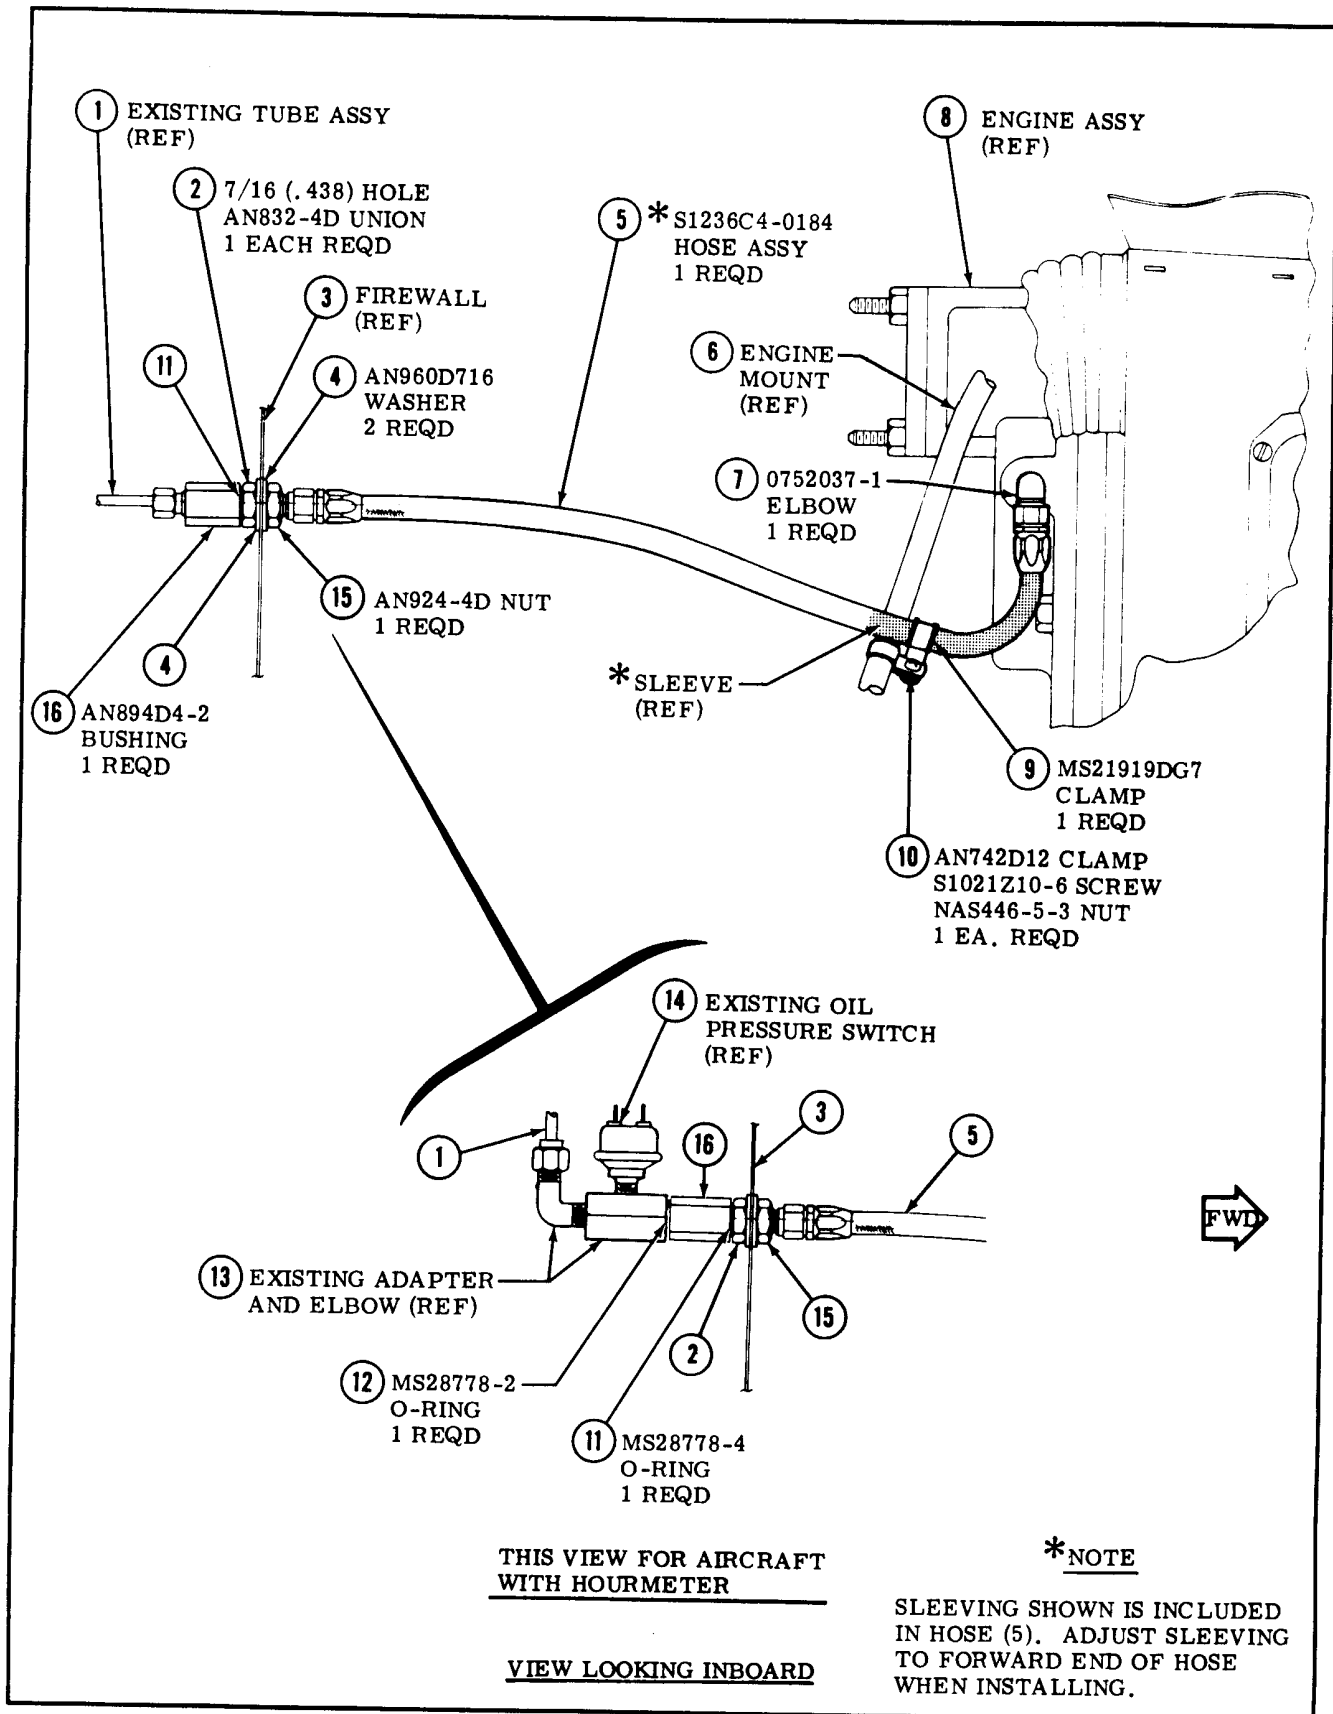

Figure 1. Oil Pressure Line Installation.
a. (Refer to figure 1.) Existing Oil Pressure Line Removal.
- (1) Remove engine cowl and attach hoist to engine.
- (2) Disengage upper engine shock mounts and tilt engine forward sufficiently to gain access to oil pressure line connection at rear of engine.
- (3) Remove existing oil pressure line. Disconnect tube (1) from existing firewall fitting.
- (4) Remove existing firewall fitting from firewall (3) and existing elbow from engine.
b. (Refer to figure 1.) Oil Pressure Line Installation.
- (1) Drill out existing hole (2) in firewall (3) to 7/16" (.438) and install union (2).
- (2) Secure union with washers (4) and nut (15).
- (3) Install O-ring (11), bushing (16) and existing tube (1) as shown.